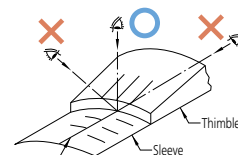

Fig. 4
2. Read the graduations seen directly from above to avoid parallax error. (**Fig. 4**)